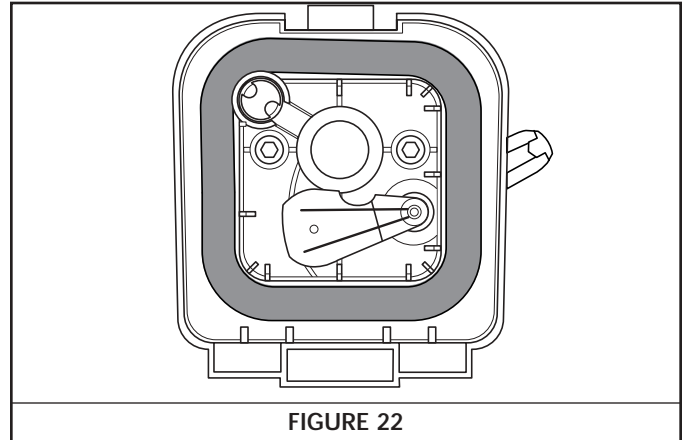

FIGURE 22
6. Reinstall the filter. See Figure 22.